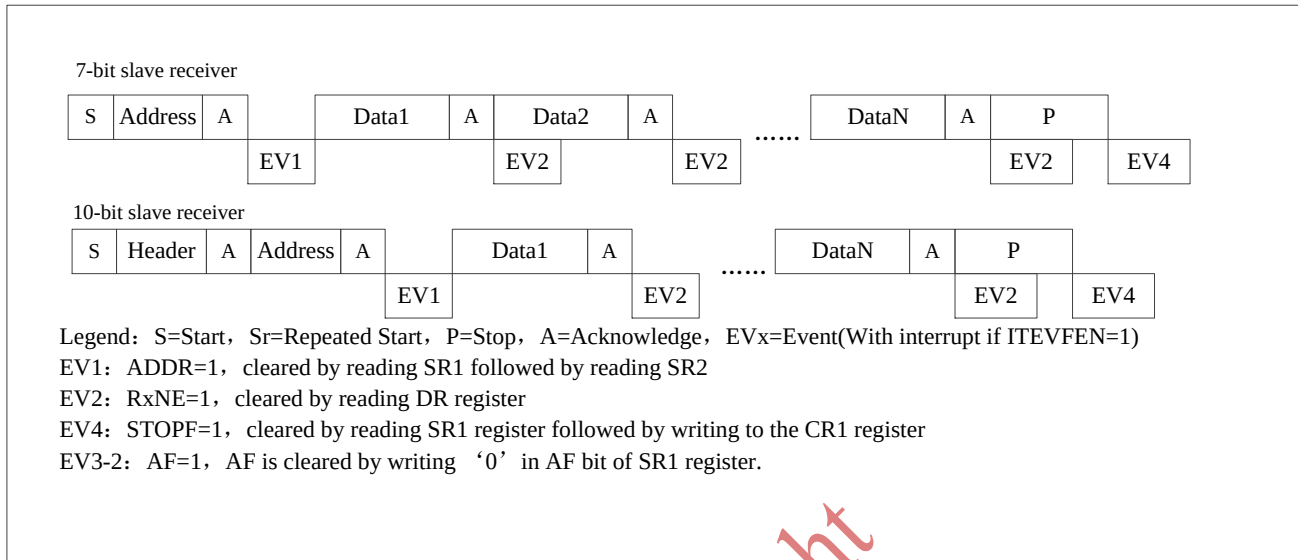

Figure 167 Transfer sequence diagram for slave receiver
- If RxNE is set and the data in the DR register is not read before the end of the next data reception, the BTF bit is set and the interface waits until BTF is cleared by a read from I2C_SR1 followed by a read from the I2C_DR register, stretching SCL low (see Figure 167 Transfer sequencing)
The STOPF bit is cleared by a read of the SR1 register followed by a write to the CR1 register (see EV4 in Figure 167).